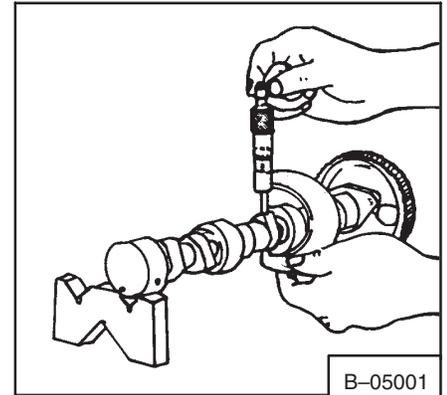

**Fig. 7C-69** Camshaft Specifications
6. Turn the camshaft at a slow rate (Fig. 7C-70). The allowable wear limit is 0.0008 inch (0,02 mm).